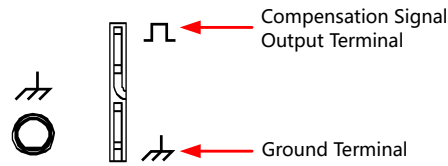

Figure 5.5 To Use the Compensation Signal
2. Connect the ground alligator clip of the probe to "Ground Terminal", as shown in *Figure 5.5* below.
3. Use the probe to connect the input terminal of CH1 of the oscilloscope and the "Compensation Signal Output Terminal" of the probe, as shown in *Figure 5.5*.